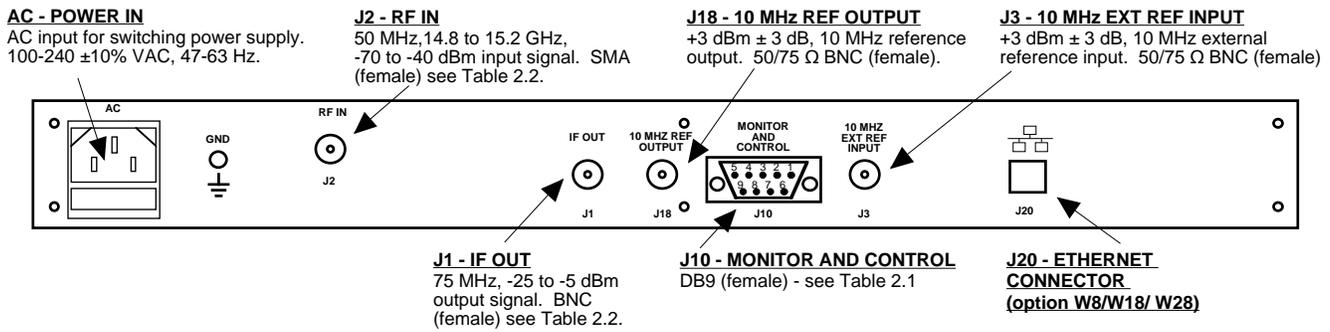

FIGURE 2.2 2016-152 Rear Panel I/Os
Figure 2.2 shows the input and output connectors on the rear panel.
1. Connect a -70 dBm to -40 dBm signal to RF IN, J2 (Figure 2.2)